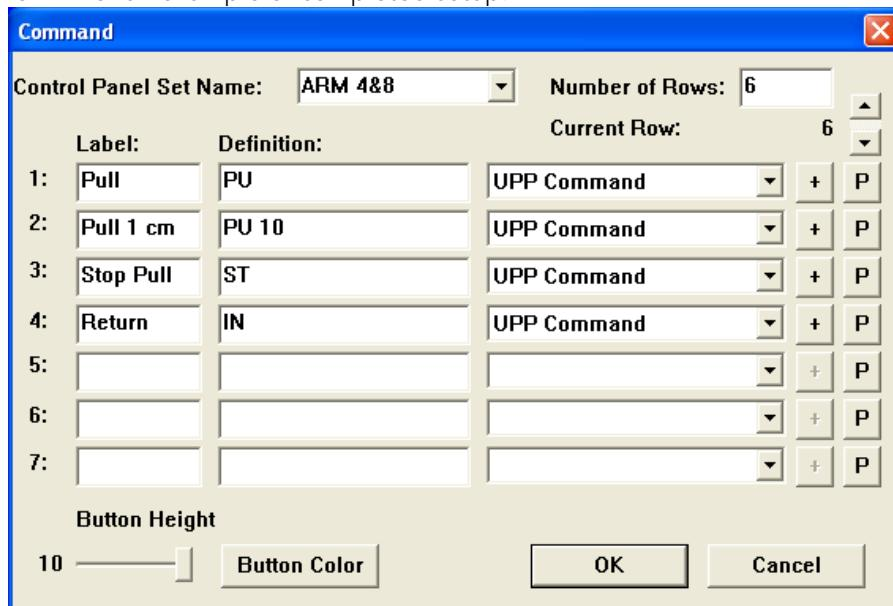

Figure 212: Control Panel Command Window – ARM 4&8 UPP Commands
7. Refer to Figure 212 for an example of completed setup.